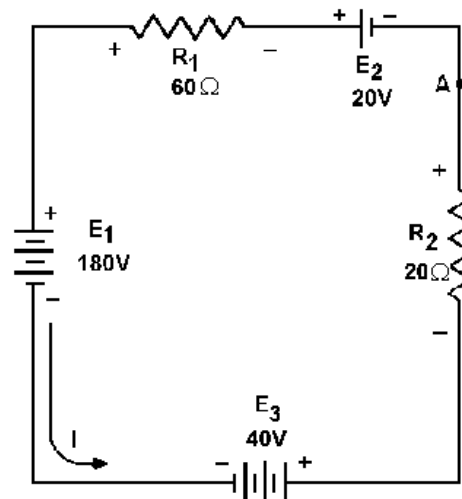

Figure 3-27.—Solving for circuit current using Kirchhoff's voltage equation.
Example: Using Kirchhoff's voltage equation, find the amount of current in the circuit shown in fig 3-27.
- Q23. Refer to figure 3-27, if R_1 was changed to a 40-ohm resistor, what would be the value of circuit current (I_T)?
- Q24. Refer to figure 3-27. What is the effective source voltage of the circuit using the 40-ohm resistor?